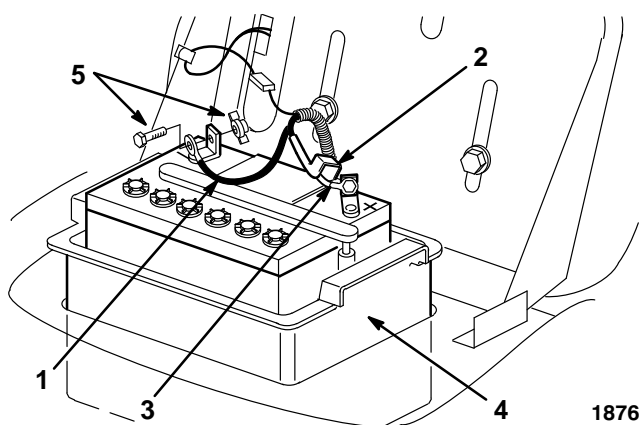

Figure 29
3. Disconnect the negative (black) ground cable from the battery post (Fig. 29).
4. Slide the rubber cover up the positive (red) cable. Disconnect the positive (red) cable from the battery post (Fig. 29).
3. Using the bolt and wing nut, connect the positive (red) cable to the positive (+) battery post (Fig. 29). Slide the rubber cover over the battery post.
4. Using the bolt and wing nut, connect the negative (black) cable to the negative (–) battery post (Fig. 29).